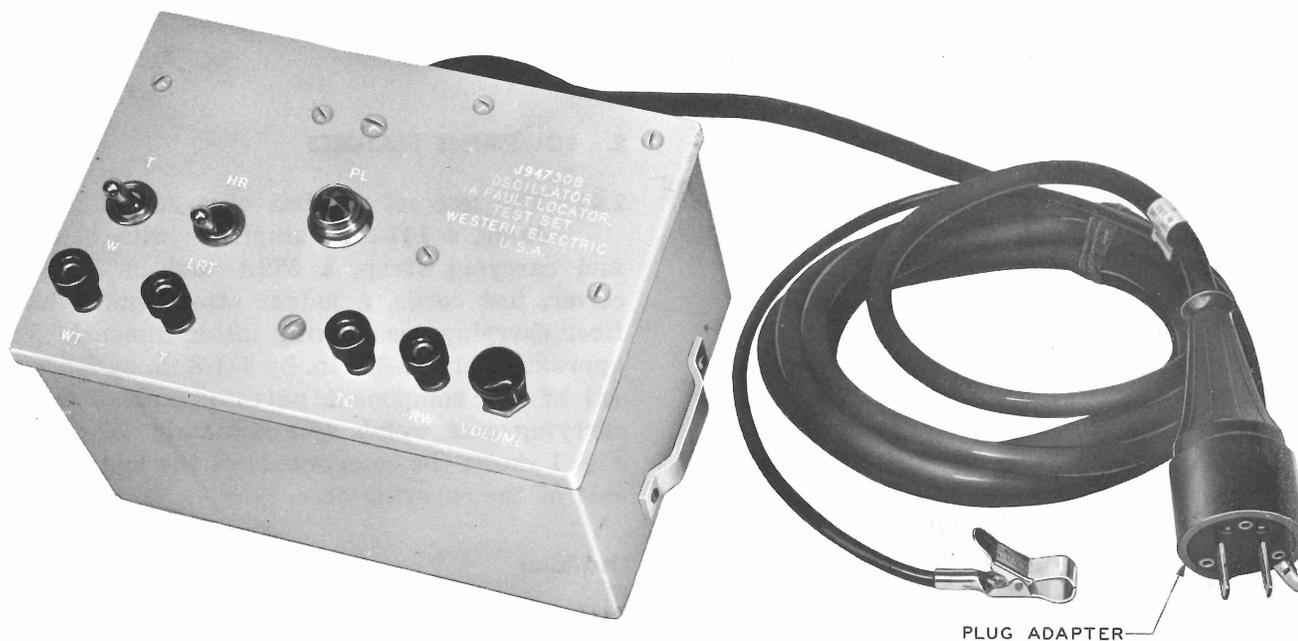

Fig. 2 – Oscillator (J94730B)
2.02 The oscillator is mounted in an aluminum casing. The outside dimensions are 7-3/16 in. by 4-1/4 in. by 4-5/8 in. It weighs approximately 5 pounds. Fig. 2 shows the oscillator with the casing in place.